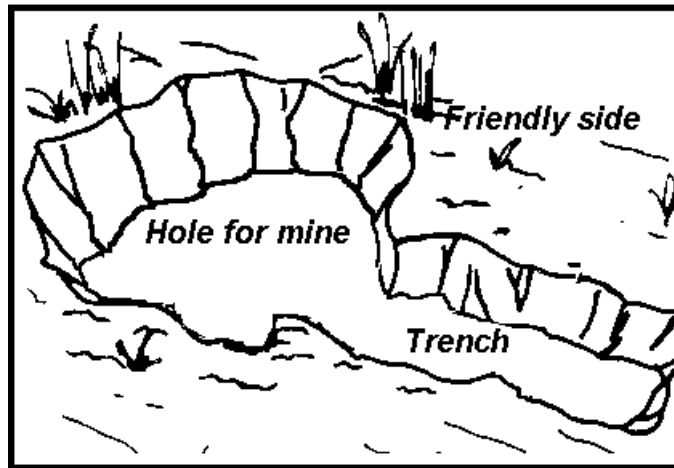

Figure 051-192-1154-1
- c. Dig a hole to fit the mine with a trench coming off the side at an approximate 45-degree angle towards the friendly side (Figure 051-192-1154-1).